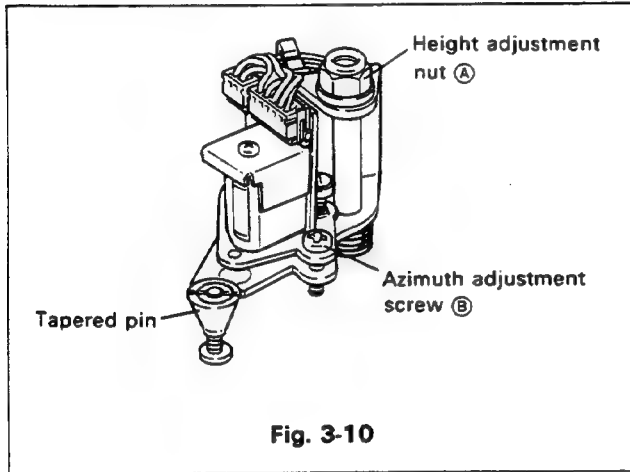

Fig. 3-10
If the height of the audio/control head is incorrect, a poor SN ratio will result when reproducing prerecorded tapes. Refer to Fig. 3-10.
- (1) Connect channel 1 of the oscilloscope to the AUDIO OUT jack on the rear panel.
- (2) Play back the MH-2 alignment tape and reproduce the 5 KHz audio signal.
- (3) While observing the audio output signal on the oscilloscope, adjust the height adjustment nut (A) shown in Fig. 3-10 to the maximum output level.
- (4) Next, adjust the azimuth adjustment screw (B) to the maximum output level.
- (1) Connect channel 1 of the oscilloscope to TP402 of the S/S/V circuit board, and channel 2 of the oscilloscope to TP610 of the S/S/V circuit board or TP901 of the jack terminal circuit board.
- (2) Play back the MH-2 alignment tape, set the tracking knob at the center position, and turn the tapered pin in Fig. 3-10 so that the maximum FM waveform output level is set. Play back the MH-2 alignment tape, and confirm that the maximum FM waveform output level is obtained with the tracking knob set at the center position.